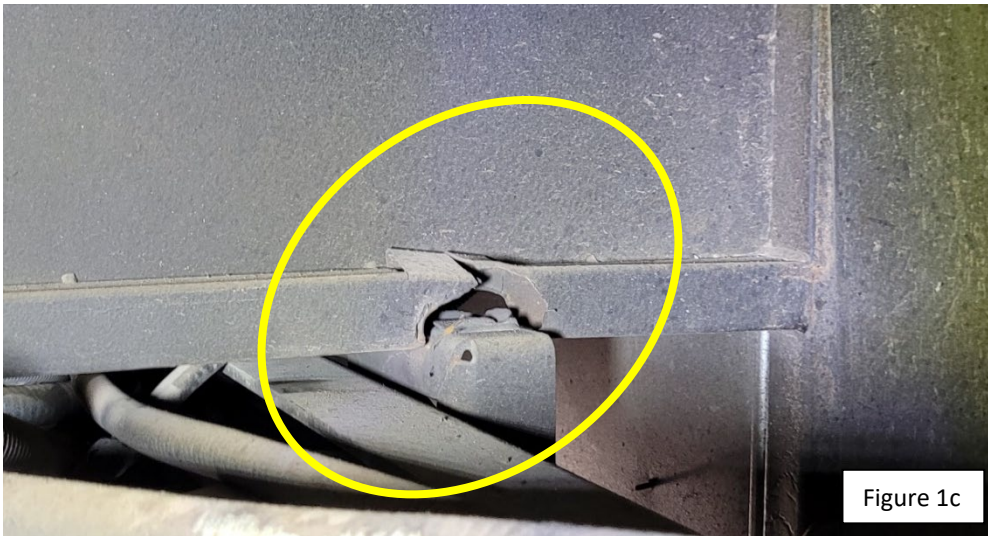

Figure 1c
1. Put motorhome on a motorhome lift and raise the lift to a comfortable height to visually inspect the trusses, Figure 1c, on each side of the rear axle and next to the last truss as indicated on Figure 1a & 1b.
In Figures 1c & 1d)